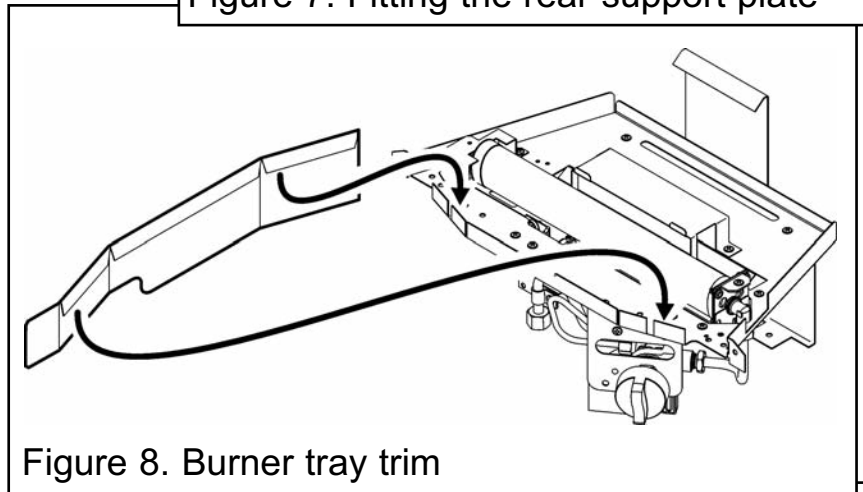

Figure 8. Burner tray trim
- The fire is supplied with a burner tray trim. Fit the trim as in figure 8.